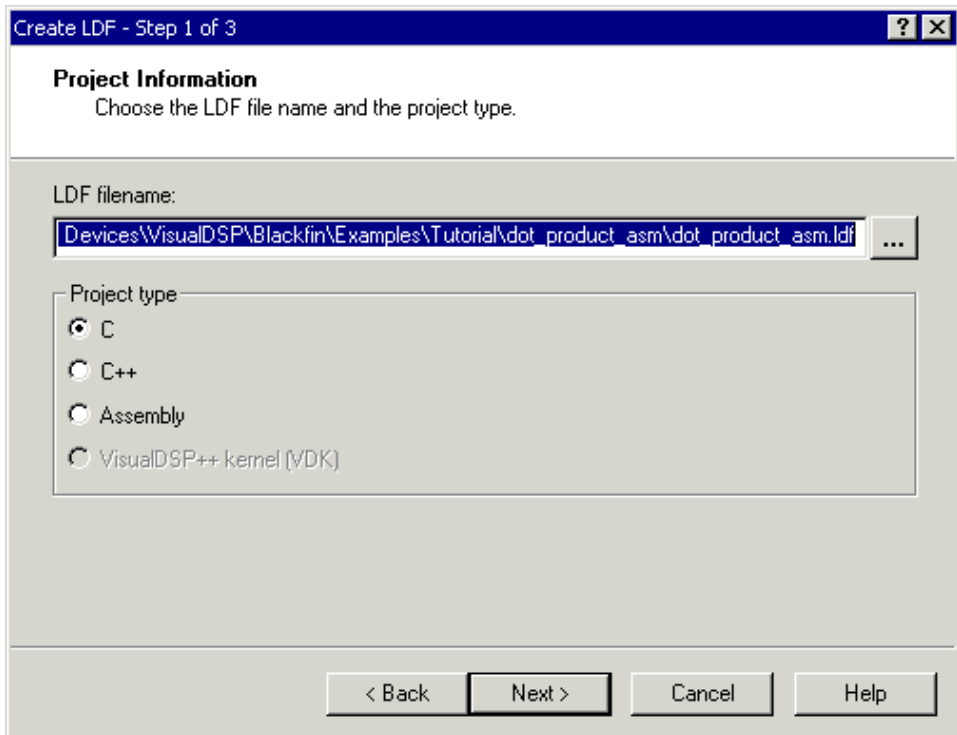

Figure 2-15. Create LDF – Step 1 of 3 Page
2. Click **Next** to display the **Create LDF – Step 1 of 3** page, shown in Figure 2-15.